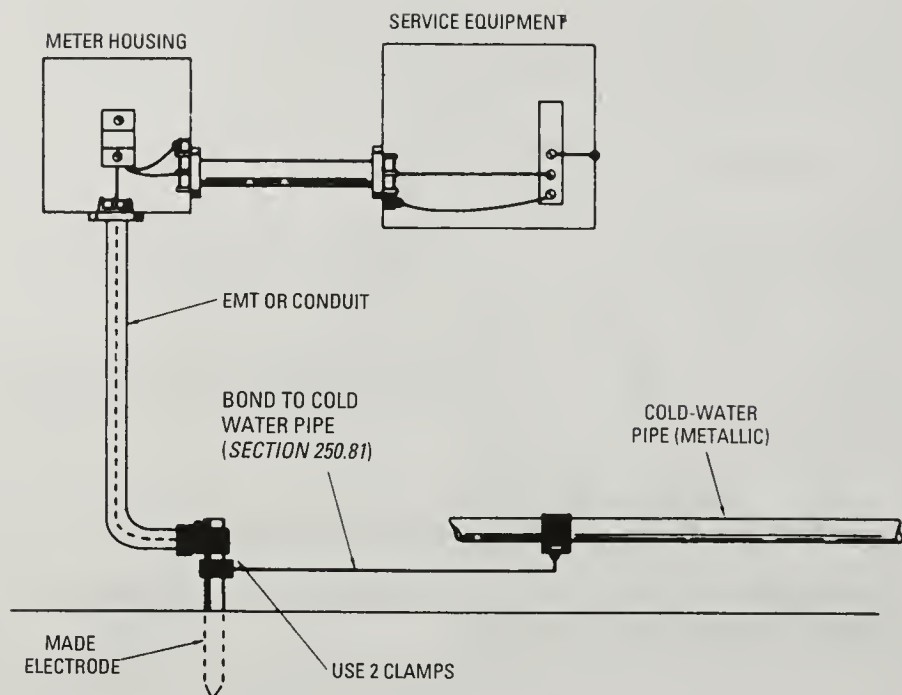

Figure 2-27 Interior cold-water piping bonded to the grounding electrode.
(A)(1) Metal Underground Water Pipe. A buried metallic underground water supply system shall always be used as the grounding electrode wherever there are 10 feet or more of buried pipe, including any well casing that is bonded to the system. If there is a chance that the piping system will be disconnected, or that an insulated coupling is or will be installed, or the possibility that nonmetallic water piping might be installed at a later date, the pipe electrode shall be supplemented by one or more made electrodes bonded to the piping. [See Figures 2-27, 2-28, and 2-29.]